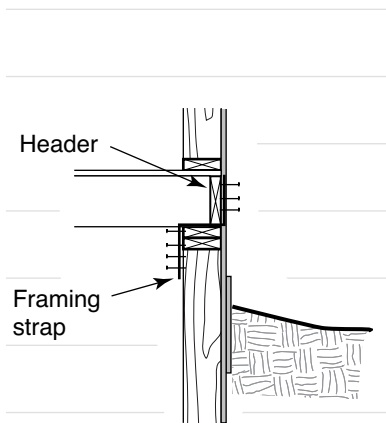

FIGURE 52
- ◆ If floor joists and wall studs have different spacings, use framing straps to connect the inner face of the studs to the outer face of the header or rim joist (see Figure 52).